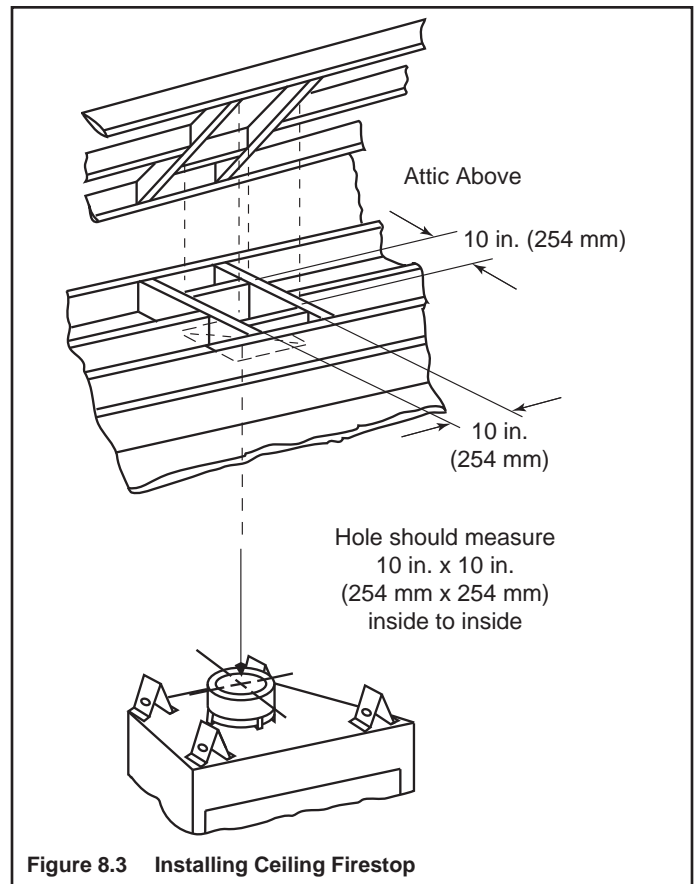

Figure 8.3 Installing Ceiling Firestop
- Frame an opening 10 in. by 10 in. (254 mm by 254 mm) whenever the vent penetrates a ceiling/floor (see Figure 8.3).